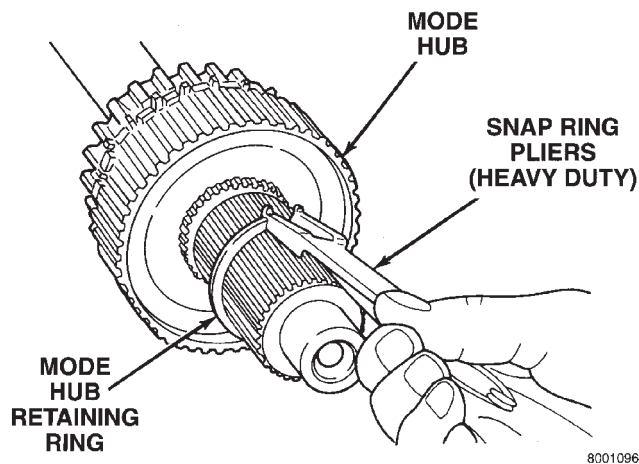

Fig. 39 Mode Hub Retaining Ring Removal
- (1) Remove mode hub retaining ring with heavy duty snap-ring pliers (Fig. 39).